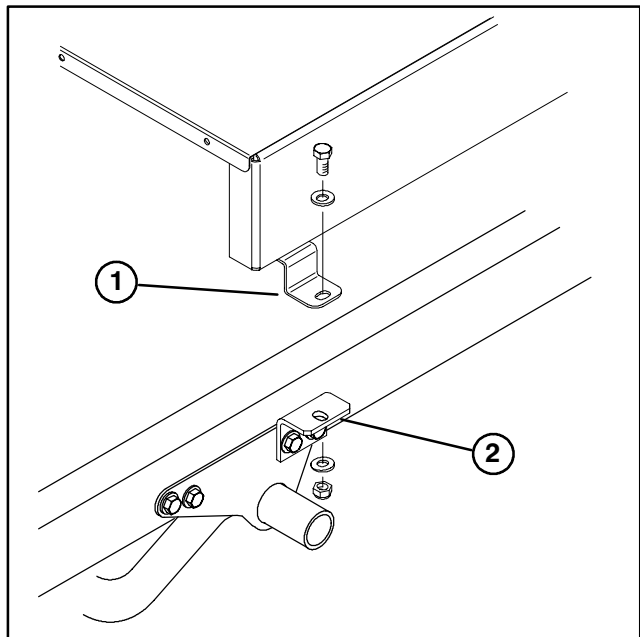
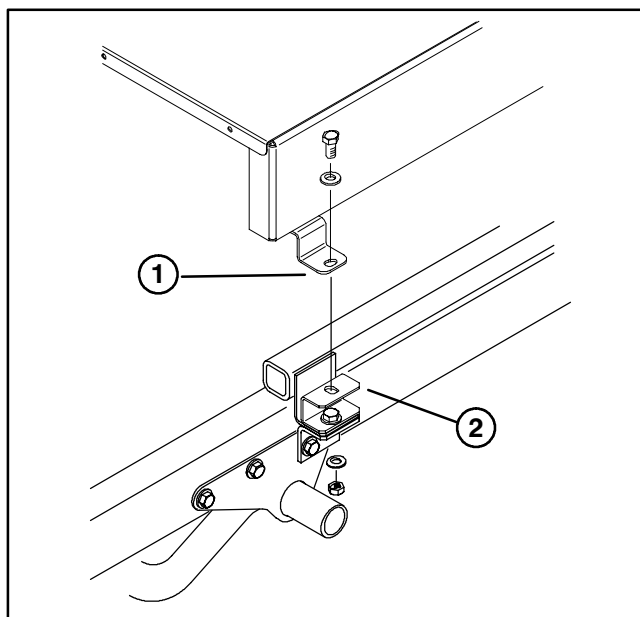

Figure 7
Figure 8
7. Loosely secure top of each attachment bracket (Fig. 7) or spacer mount (Fig. 8) to mounting tab on each side of topdresser with a 1/2-13 x 1 inch lg. cap screw, (2) flat washers and locknuts. Tighten all fasteners.